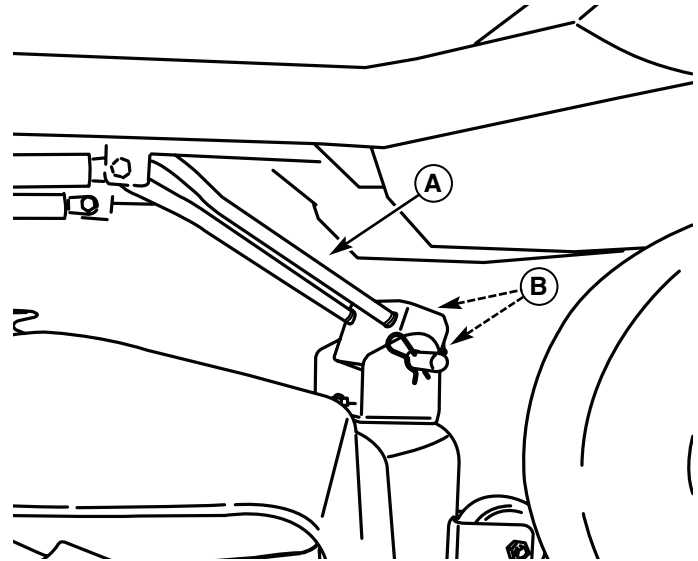

**Figure 51. Orient Blades Front-to-Back**
1. Turn the blade front-to-back as shown in Figure 51. Measure the distance from the ground to front tip of blade, and from ground to rear tip of blade (Figures 51). Front tip should be 1/8"-1/4" (3-6 mm) higher than rear tip. If not, proceed to step 2.